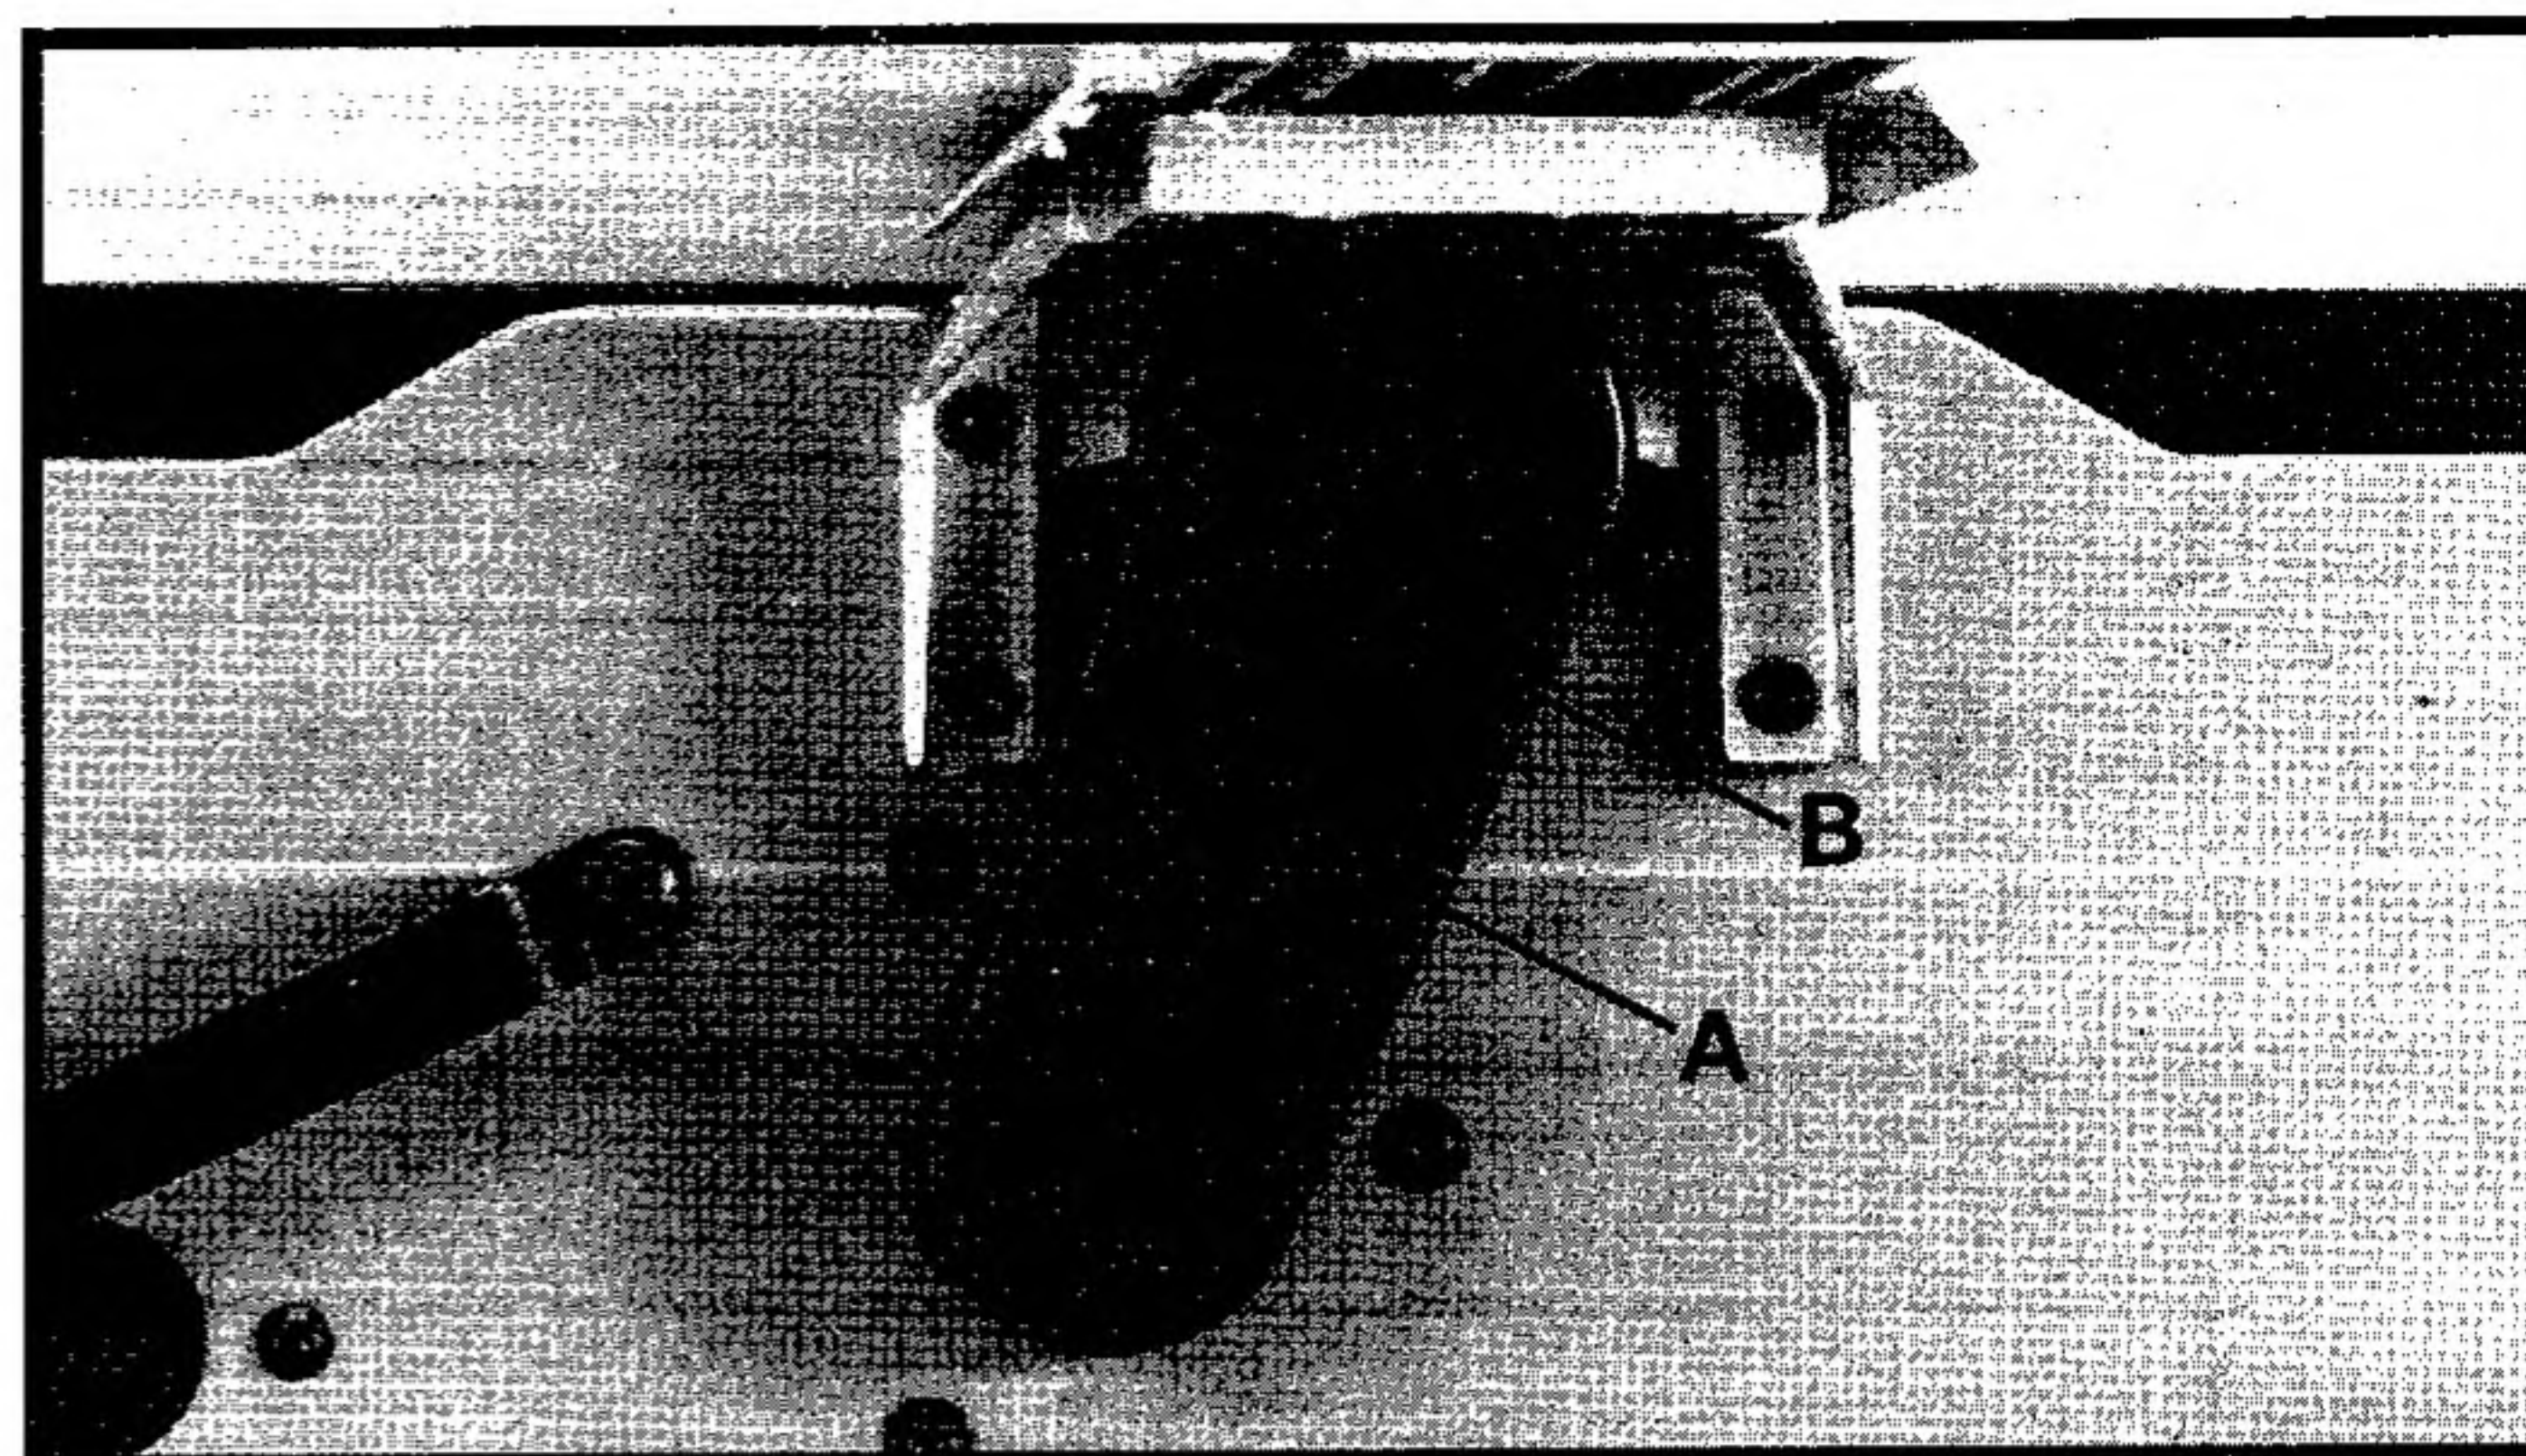
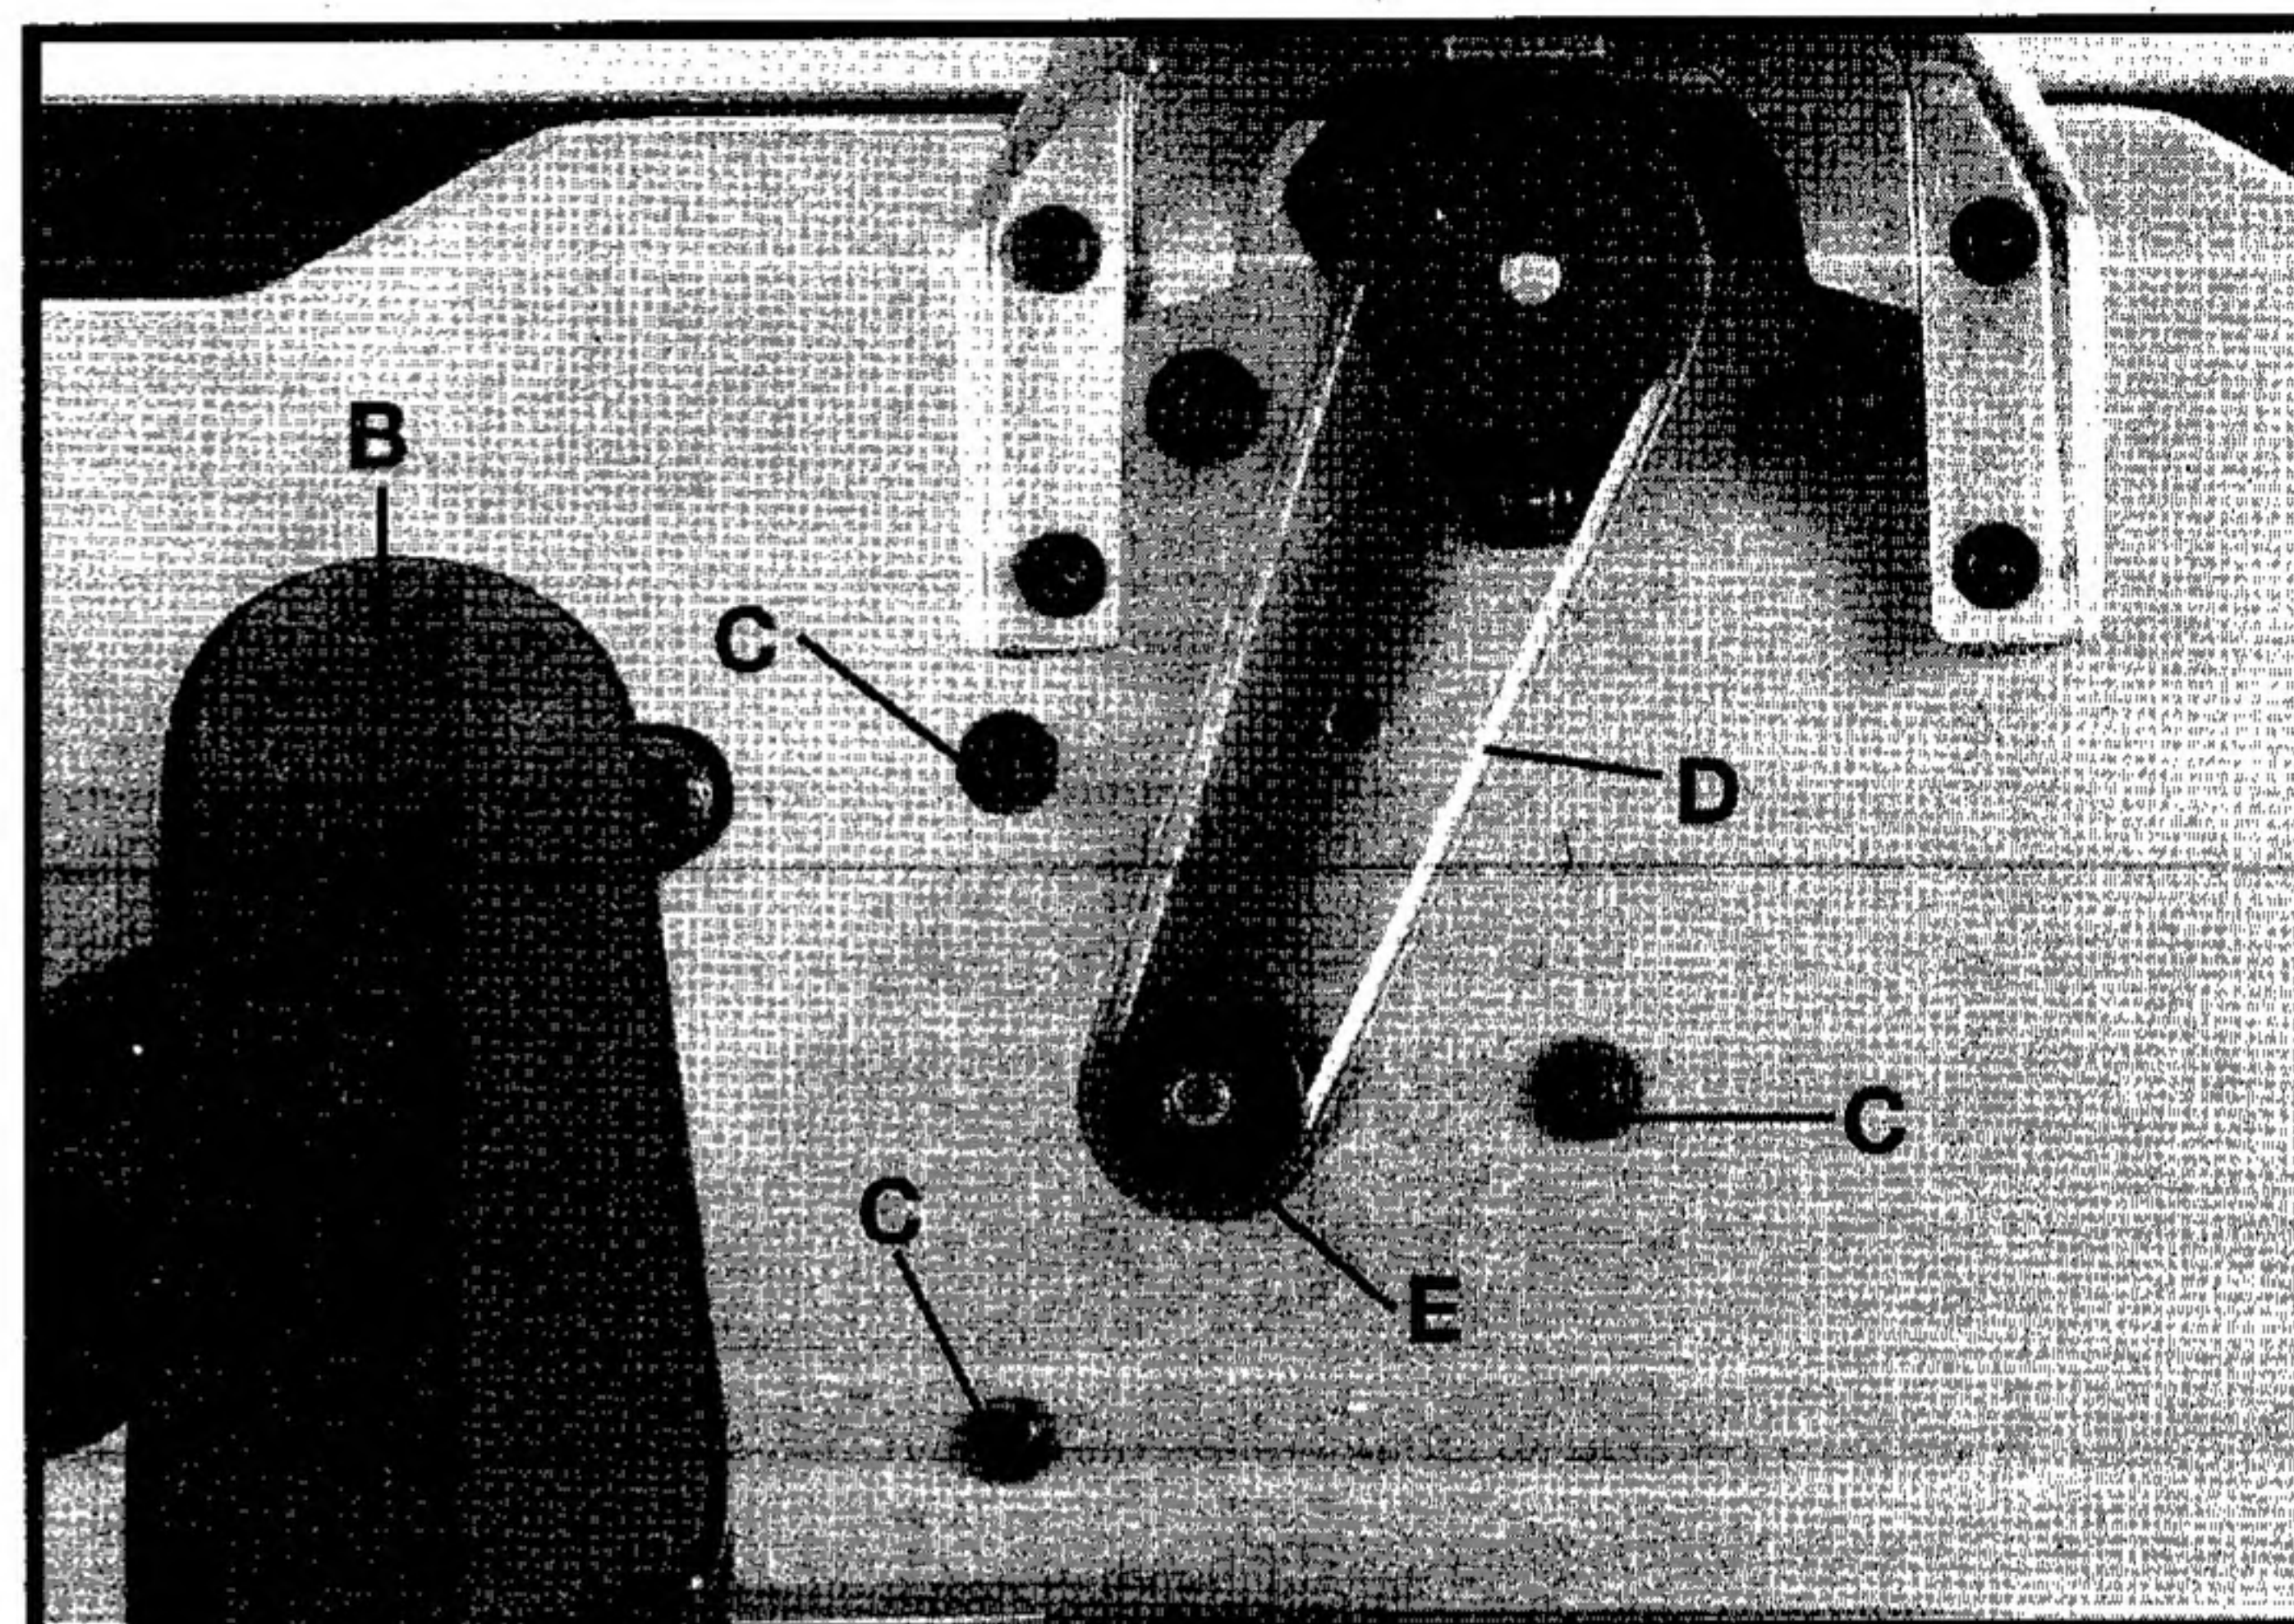

Fig. 44
Fig. 45
1. Remove screw (A) Fig. 44, using hex wrench supplied, and remove belt guard (B).
2. Loosen three screws (C) Fig. 45, to release belt tension and remove belt (D) from pulleys.
3. Assemble new belt to the cutterhead and motor pulleys. Press down on motor pulley (E) Fig. 45, to tension belt and tighten three screws (C).
**NOTE: THERE SHOULD BE APPROXIMATELY 1/4 INCH DEFLECTION IN THE BELT (D) AT THE CENTER SPAN OF THE PULLEYS USING LIGHT FINGER PRESSURE. THE BELT DOES NOT REQUIRE EXCESSIVE TENSION TO FUNCTION PROPERLY.**
4. Replace belt guard (B) Fig. 44.